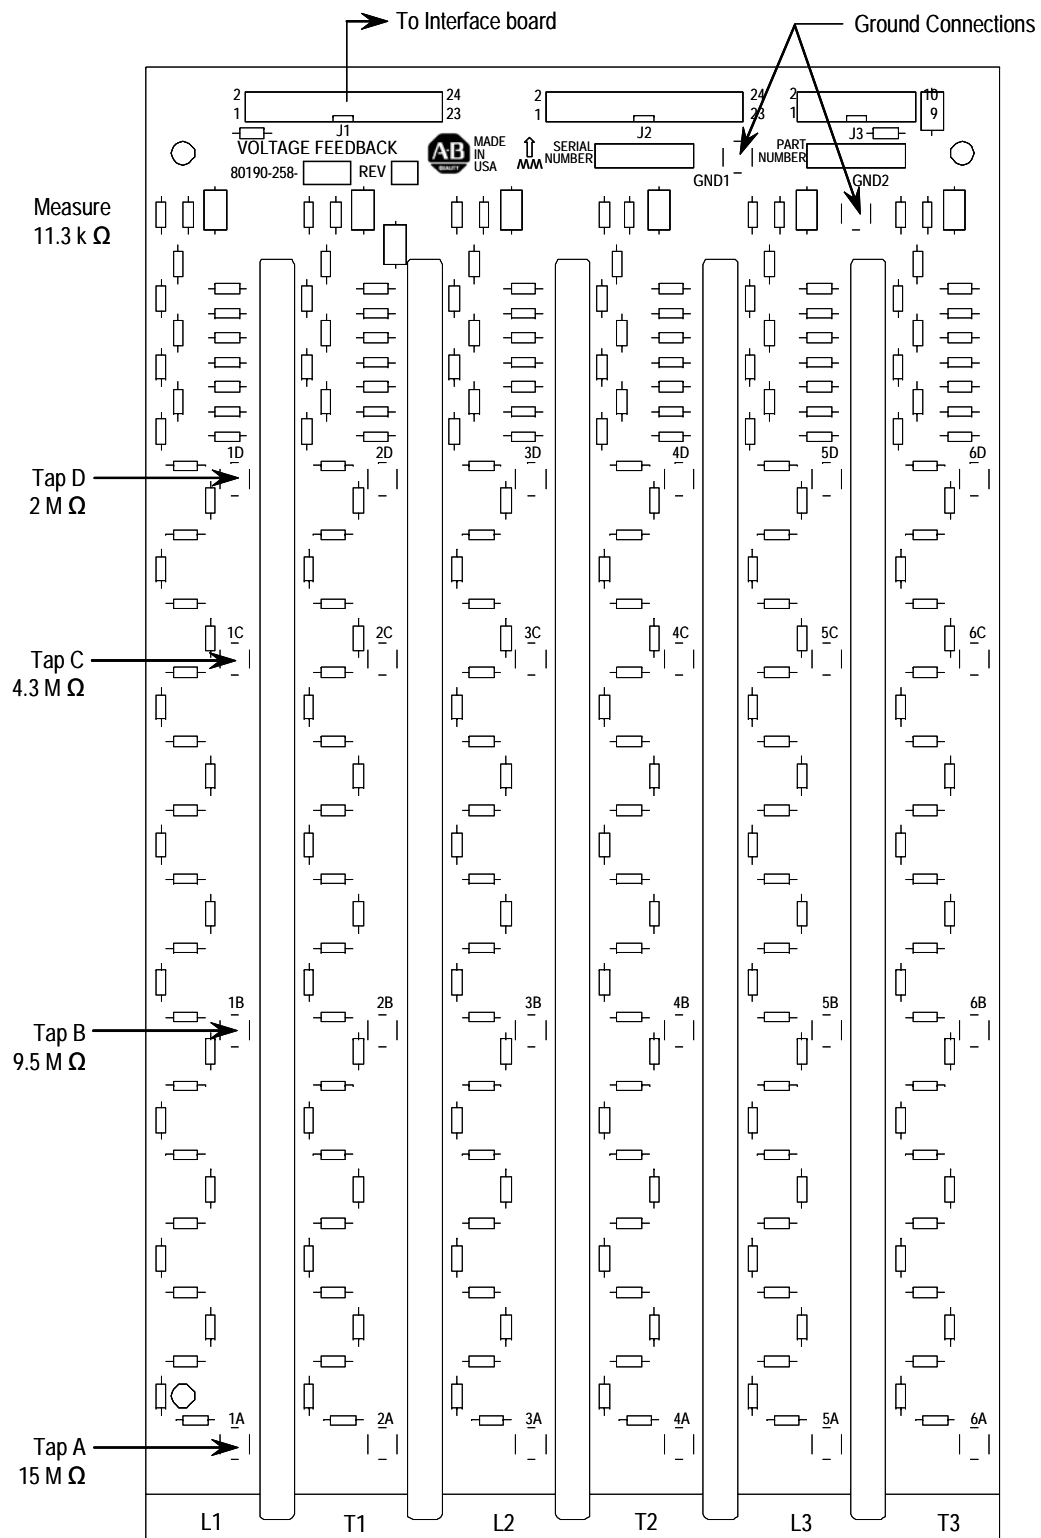

Figure 9.20 – Voltage Sensing Board
3. If the snubbers and sharing resistors are within tolerances, check the resistance of the voltage sensing module (refer to Figure 9.20). Remove the ribbon connector from J1 by pressing down on the locking tabs then gently pulling the connector out. Take note of which tap the white high voltage wires are connected to, then remove them (L1, T1, L2, T2, L3, T3). Measure the resistance between each tap and the ground connection, and compare to the values in Figure 9.20.